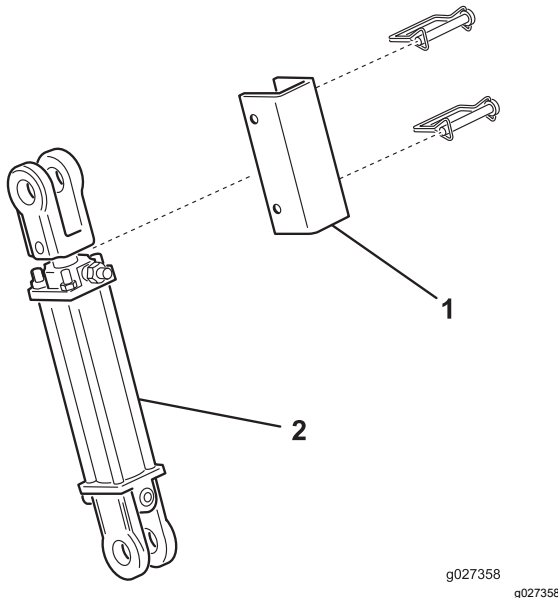

Figure 8
- Ensure that the deck is raised and the casters cannot contact the ground during transport. Also, ensure that the cylinder lock bar (Figure 8) is in place to prevent the lift cylinder from compressing during transport.